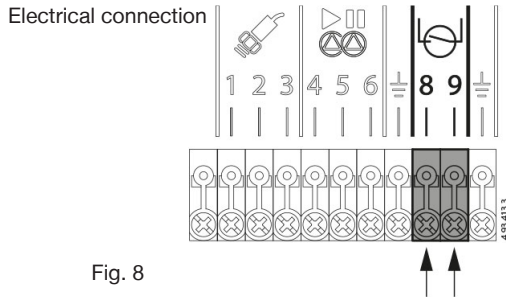

Fig. 8
To protect the booster set from running out of water a float switch can be fitted into the supply tank and should be wired into terminals 8 and 9 of **both** controllers (see Fig. 8).
- 2) If an external float or level switch is to be connected to the controllers (see Page 14, Fig. 8) the controller will stop the pumps when the switch is activated, when the switch is re-set by the rising water level, the pumps will re-start automatically after a pre-set time delay (AP19)